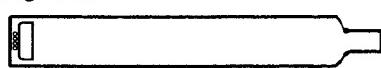

Fig. 1-9
- Flexible Cable (Part Number: YWV0EA0291AN 1 piece) for between Preamp/Encoder Board and Sensor Board as shown in Fig. 1-9.